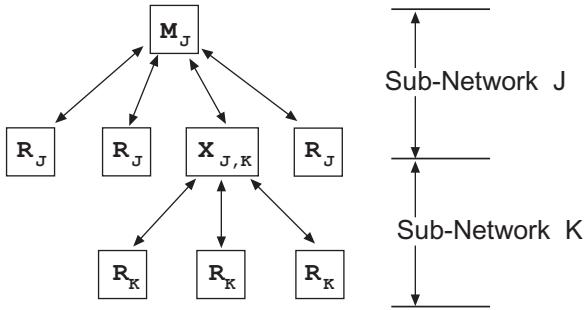

Figure 18. Simple Extended SAF Network
The following example depicts a two-level network utilizing a single Master (M) and an Extension (X) radio. See Figure 18.